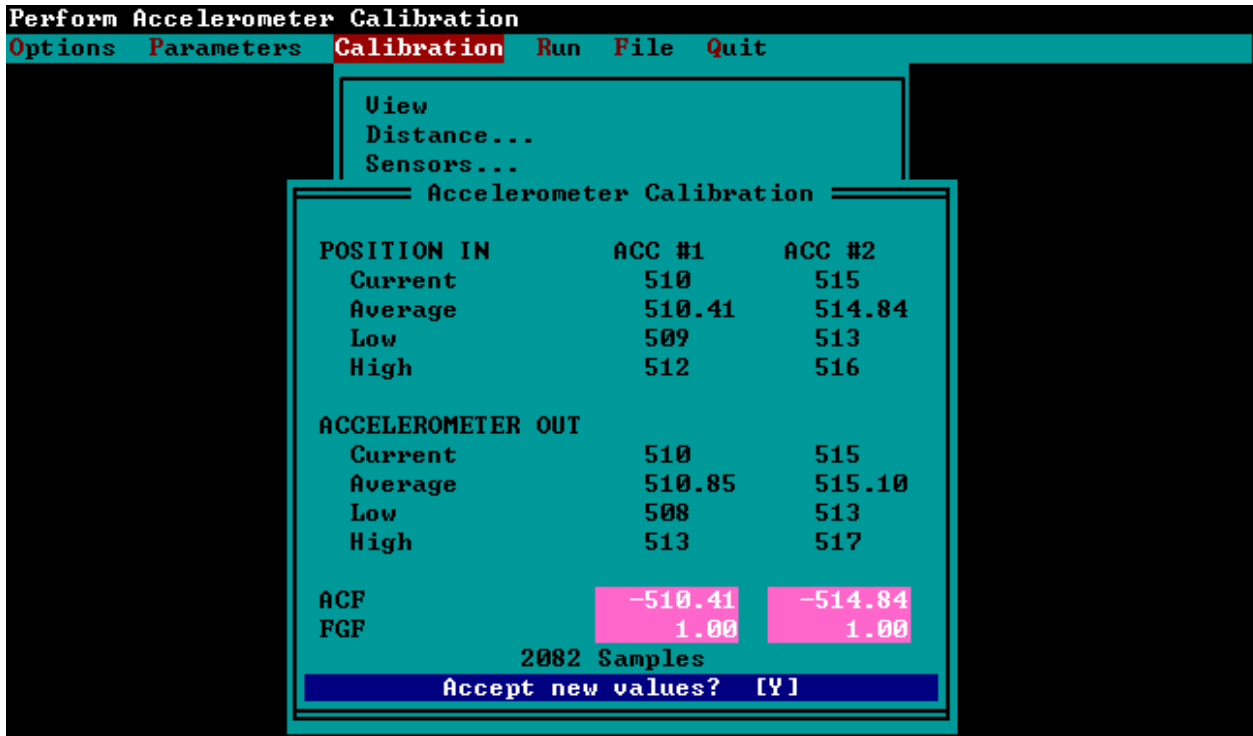

Figure 3-3. MDR Software Accelerometer Calibration Screen.
3. In the Accelerometer Calibration Menu, highlight 'Go' and press Enter key. The monitor will display an Accelerometer Calibration Screen similar to that shown in Figure 3-3.